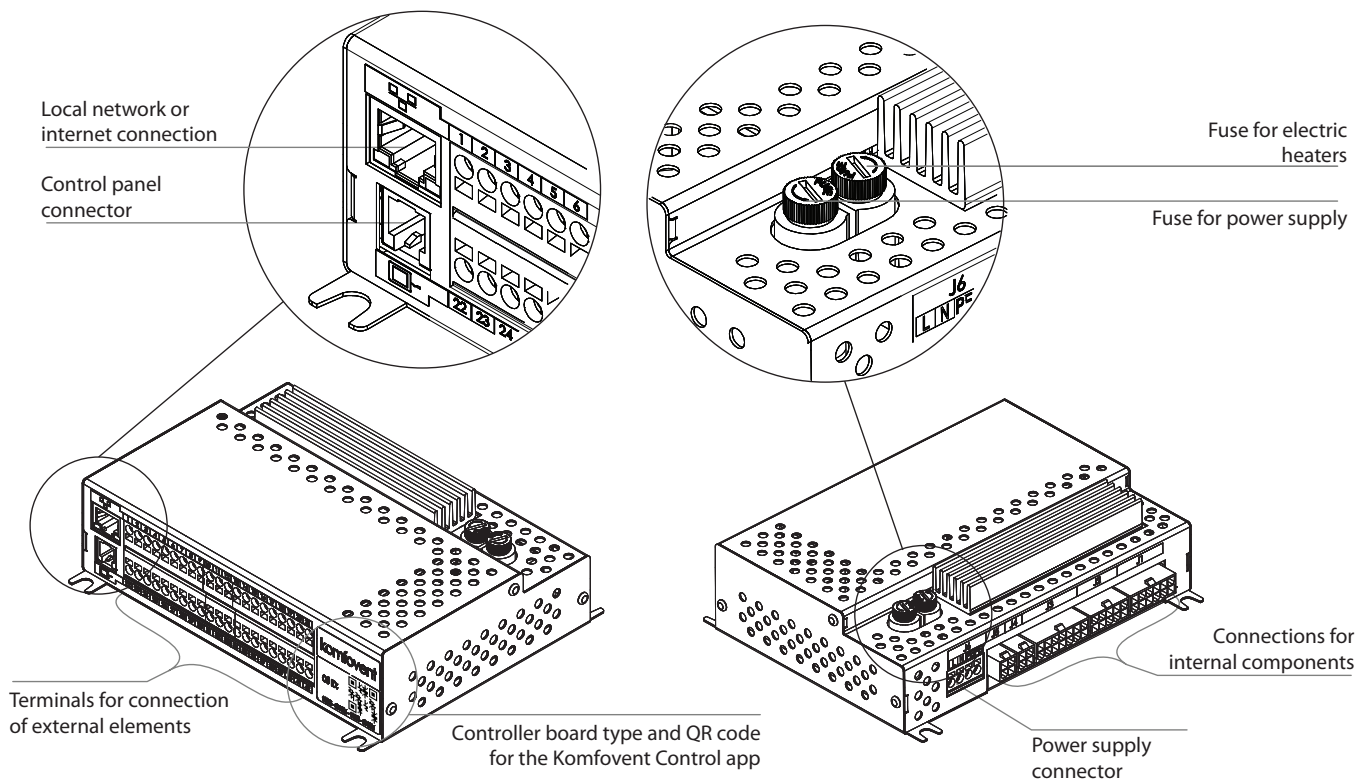

Fig. 12. C6M controller main board
- The terminal numbering shown here only applies for C6M controller board. Before connecting the external elements, check the board type on the sticker in the front of the controller (see Fig. 12).
It is advisable to run the control panel cable in such a way that it does not go near the power supply wires or high voltage electrical equipment (electrical inlet cabinets, electric water heating boiler, air conditioning unit, etc.). The cable can be passed through the holes in the back or bottom of the control panel (follow the installation instructions supplied with the control panel). The wire to C6M controller board is connected to a dedicated slot (RJ9 connector; see Fig. 12) or to the terminals for external connections.
The unit can be controlled not only by the control panel, but also by computer or smart phone. In such cases, the air handling unit must be connected to an local computer network or to the Internet. The unit is controlled by a computer using a web browser, or a smartphone with a Komfovent Home or Komfovent Control app. The air handling unit is connected to the computer network with a CAT5 type cable (RJ45 connector; see Fig. 12). The total cable length between the unit and the network router must not exceed 100 m.
- The easiest way to manage your unit over the internet is to use a smartphone with the Komfovent Control app. Launch the app on your phone (the phone must have Internet access). When you connect for the first time, the app will ask you to scan the QR code at the front of the controller board (see Fig. 12). When you scan the code, the app will automatically establish the connection to the unit (for more information on the Komfovent Control app, see "Domekt User Guide").